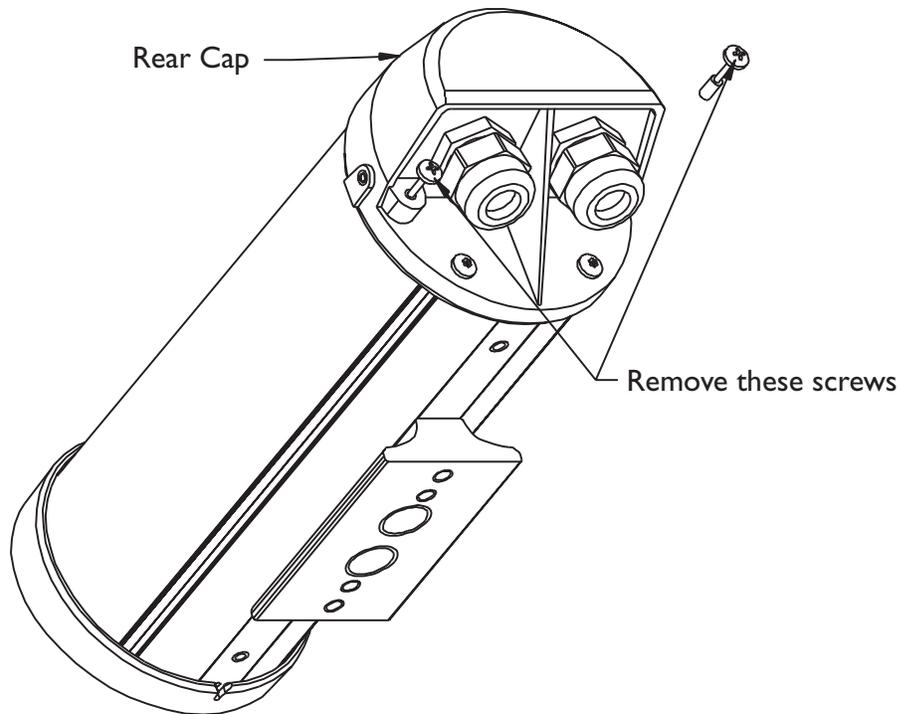

Figure 1: Removing Current Screws
1. Remove the top two captive screws in the rear cap by grasping the screw and lifting while the screw is rotated in a counter-clockwise direction. These screws are phillips head screws. The threads of the screw will engage into the plastic and then freely screw out. **See Figure 1.**